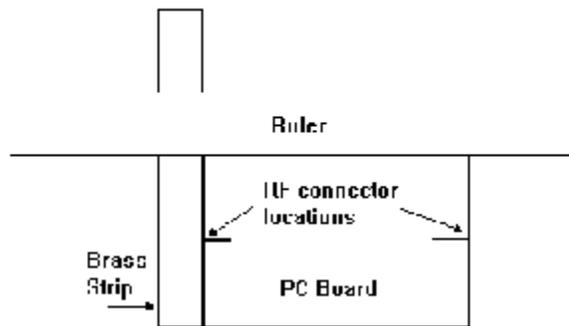

Figure 1 Measuring the first end piece.
1) Start with an end of the circuit board that requires an RF connector. Lay a piece of brass along that edge of the board, with one end of the brass flush with one end of the board. Lay the steel rule along the edge of the board so that it lies flush with the board and crosses the brass. See Figure 1. Mark the brass where the ruler, PC board and brass strip meet. You're marking the brass piece so that it's *exactly* as long as the RF-connector end of the board. Using a square along a long edge of the brass, mark a cut line across the brass with a pencil or scribe.